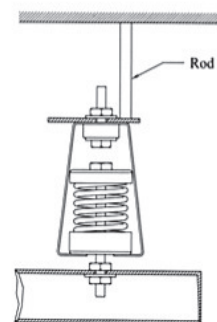

Fig.4
- 5、 Match M10*150 bolt with vibration isolator bolt hole, then tighten M10 nut clockwise.(See Fig.4)